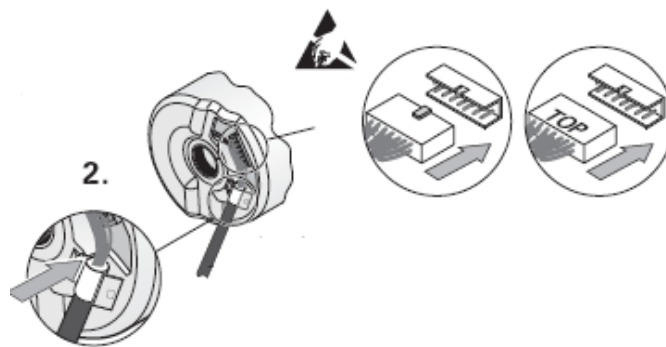

Figure 16: Reconnect ECN1313 encoder cable
2. Reconnect the encoder cable for the ECN1313 only. See Figure 16.